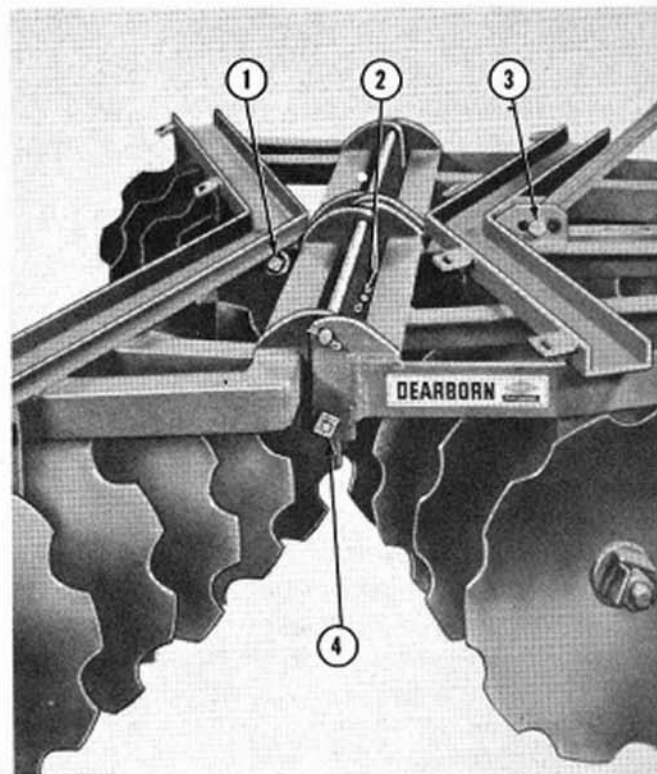

Figure 4
Changing the Harrow: To change the implement from a tandem disc harrow to a heavy duty bush and bog harrow, remove the nut, flatwashers, spacers and bolt (1), Figure 4, the cotter pin and button head pin (2), and the nut, lockwasher and bolt (4) from each side of the harrow. Fold each gang over so that it rests on the front frame members. The weight of the rear gangs is sufficient to hold them in this position.
Gang Level: The level of the front and rear gangs may be changed to suit varying soil conditions by changing the position of the pin (3), Figure 4. To obtain deeper penetration of the front gangs, move the pin (3) to the rear hole. To obtain deeper penetration